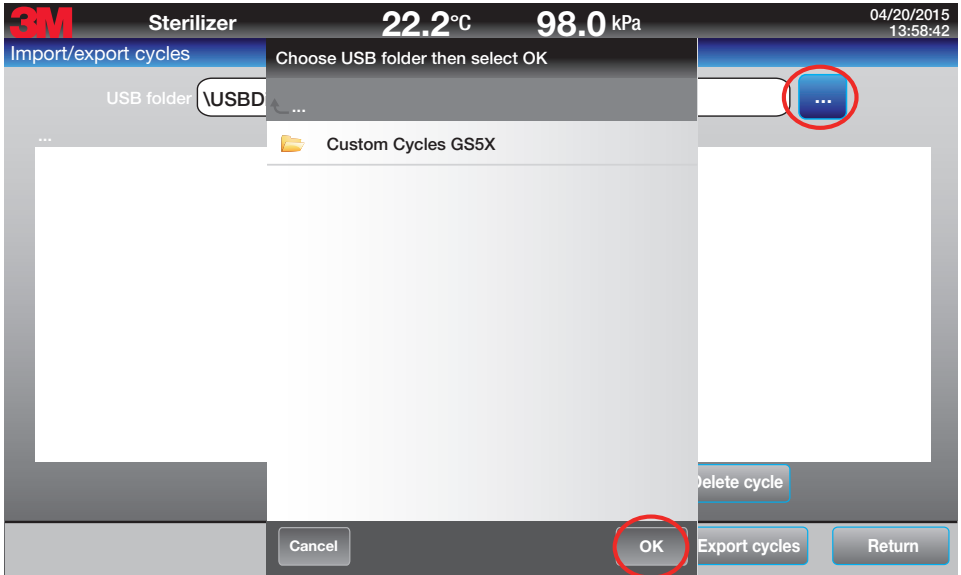

Figure 53.
3. Before a USB drive is detected, all functionality buttons on this screen will be disabled (gray) (Figure 53). Once the USB drive is detected, the functionality buttons will turn blue.
4. Press the blue **Browse** button to search for valid Folders on the USB drive. Choose the desired USB folder by pressing the folder name, then **OK** (Figure 53).